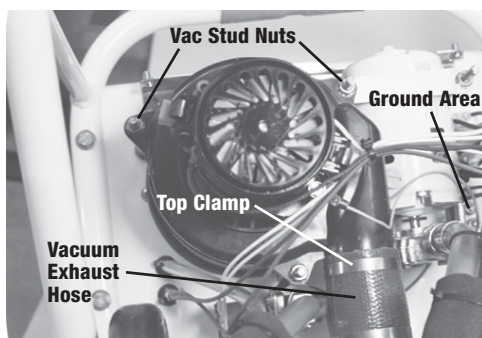

Figure 12
3. Loosen top clamp on vacuum exhaust hose (fig. 12).
4. Remove three vacuum studnuts (fig. 12).
5. Remove the vacuum motor's ground wire from the machine's ground (fig. 12).